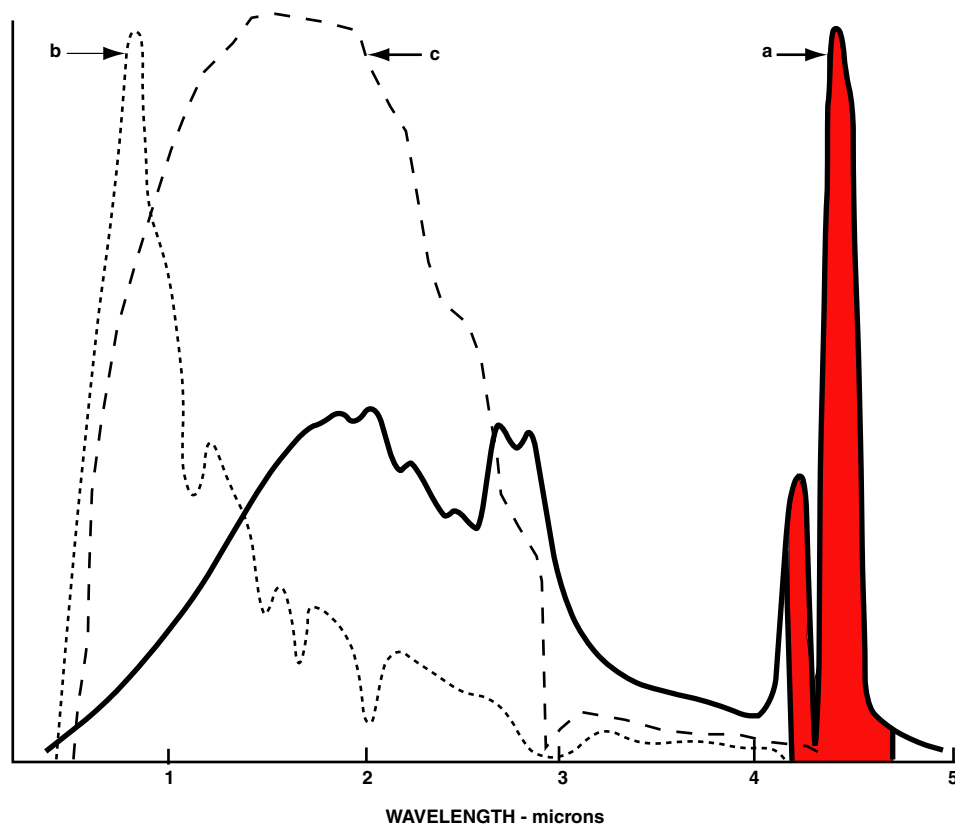

Fig. 1: Spectrums of:
- Fig. 1(a) Fig. shows the spectrum of a typical fire of this type
- Fig. 1(b) the spectrum of the radiation of the sun and
- Fig. 1(c), that of a tungsten filament lamp.
In order to exploit these spectral characteristics, the 601F uses an optical filter which transmits infra-red between  $4.38 \mu\text{m}$  and  $4.56 \mu\text{m}$  (shown shaded in Fig. 1(a)). This bandwidth allows high sensitivity to flames with low sensitivity to other interfering sources.